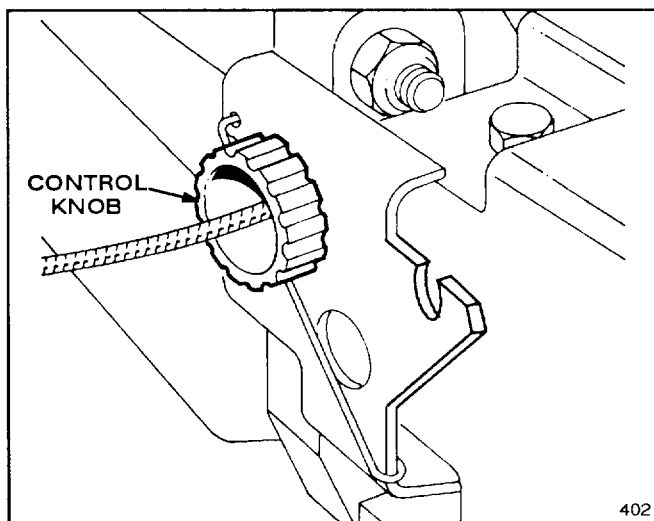

Figure 12
3. ADJUSTMENT (Fig. 12)—Rotate control knob clockwise to increase distance between control bar and handle. Rotate control knob counterclockwise to decrease distance between control bar and handle.